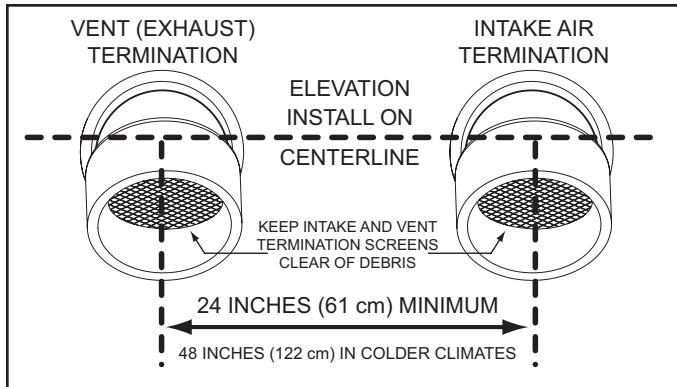

Figure 22. Sidewall Termination - Direct Vent
4. If installing both an intake air and vent termination in a Direct Vent configuration through a sidewall there must be a minimum of 24 inches (61 cm) separation, measured on vertical center line, between the intake air and vent terminations. See *Figure 22*.
5. If installing both intake air and vent terminations in a Direct Vent configuration through a sidewall the intake air and vent terminations must be installed at the same elevation measured on horizontal center line. See *Figure 22*.
6. When the intake air and/or vent piping from multiple water heaters will terminate at the same location through a sidewall, the vent terminations can be grouped together in close proximity - 0 inches/ touching. The intake air terminations can also be grouped together in close proximity - 0 inches/ touching. However, the distance between the closest vent and intake air terminations must be a minimum of 24 inches (61 cm). In colder climates this separation should be increased to at least 48 inches (122 cm). See *Figure 22* (page 27).